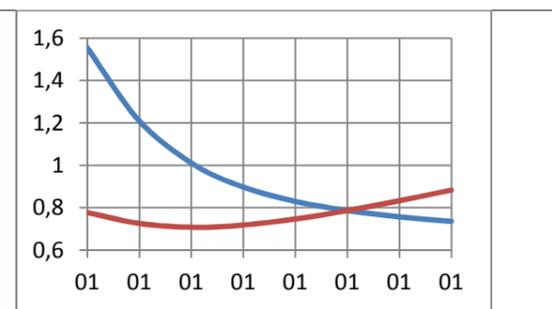
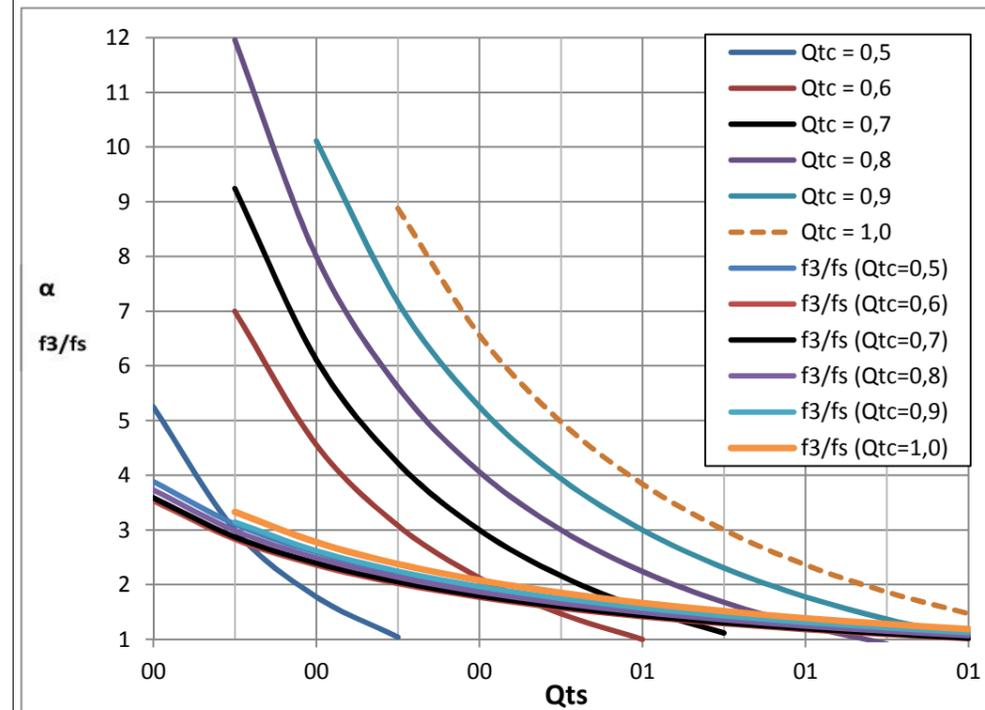

Figure 4. $f(Q_{tc})$ (blue line) and $f(Q_{tc}) \cdot Q_{tc}$ (red line) as a function of Q_{tc}
Figure 5. $\alpha = V_{AS}/V_B$ and f_3/f_s (curves close together) as functions of Q_{ts} and Q_{tc}
It is apparent from figure 4 that picking a Q_{tc} in the interval 0,6-0,8 yield the lowest f_3 . If we now use an element with Q_{ts} in the interval 0,3-0,5 we will get a moderately large box (Q_{ts} closer to 0,3) and a good base response with low f_3 (Q_{ts} closer to 0,5), figure 5.
It is apparent from figure 5 that a suitable speaker element for a closed box design should have
- V_{AS} should not be to large depending on selection of Q_{ts} . Small Q_{ts} put less demand on small V_{AS} than if Q_{ts} is larger, see figure 5.